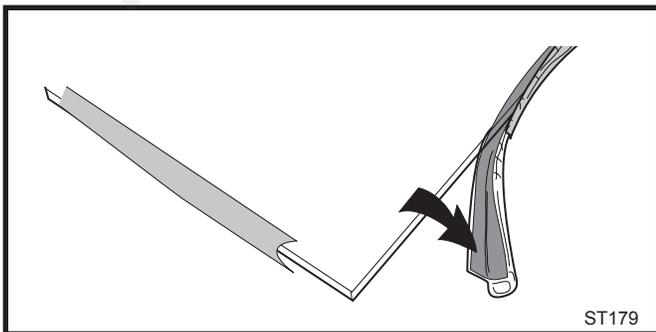

Fig. 85 Wrap the gasket material around the outside edge of the glass.
3. Starting on a long edge, remove about 6" of the protective paper strip and apply the flat adhesive face of the gasket around the outside-facing edge of the panel. Continue around the panel, applying a bout 6" at a time and being careful to not stretch the material. Do not overlap the gasket ends. (Fig. 85)